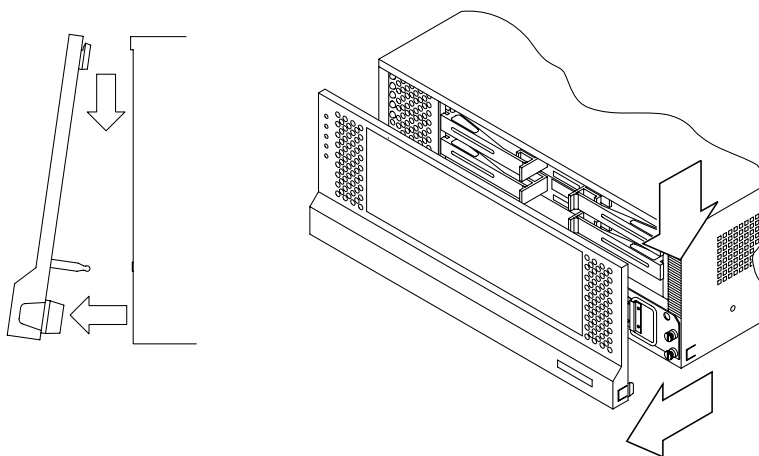

FIGURE 5-1 Removing the Front Panel
1. Grasp the front lower left and right edges of the front panel and pull out slightly until you feel it snap out of the mounting holes (FIGURE 5-1).
1. **Tilt and slide the top edge of the front panel under the upper lip on the chassis (reverse FIGURE 5-1).**